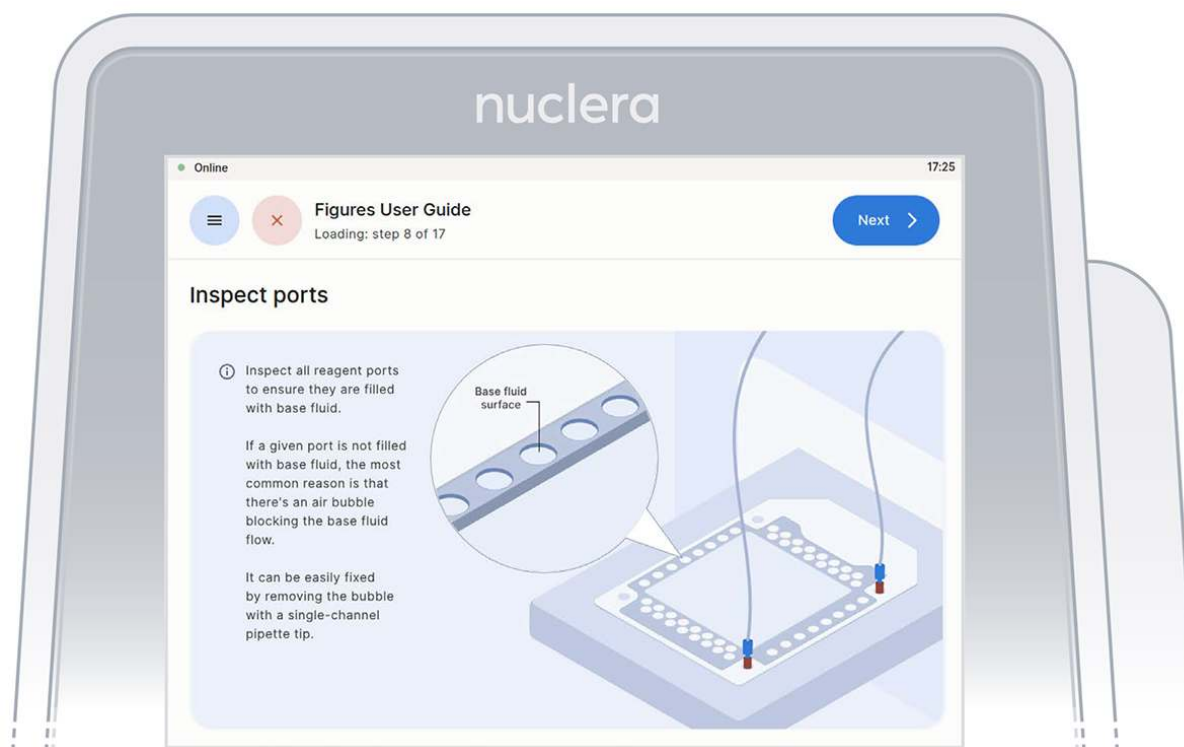

Figure 16: Inspection that all the ports on the cartridge are filled with base fluid
4. Inspect the ports on the cartridge after the priming with base fluid is complete. Ensure all the ports are filled and press the **[Next]** button (Figure 16).